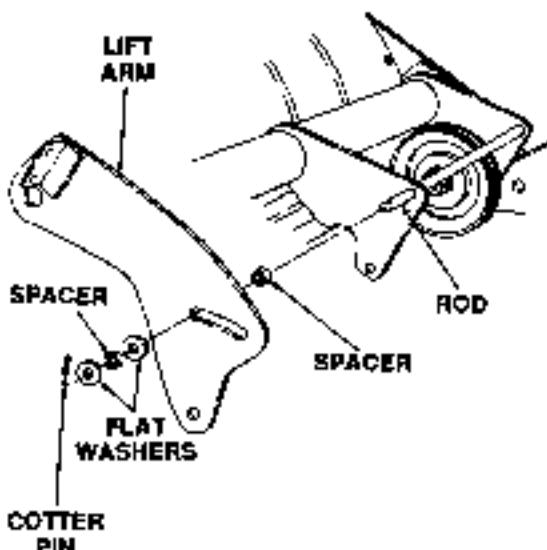
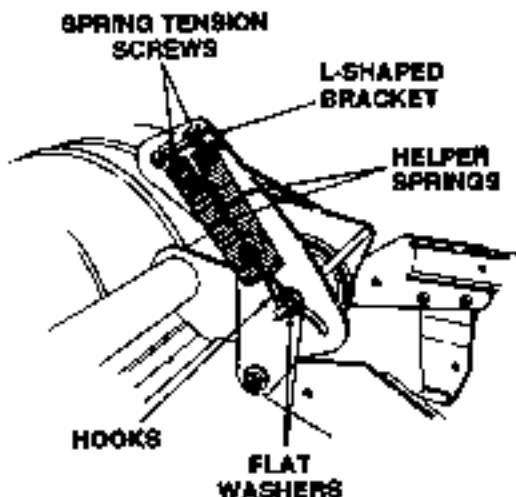

Figure 7-51. Install Lift Arm and Spacers.
Figure 7-53. Attaching Helper Springs.
2. In this order: slide a spacer (32, Fig. 7-45), the lift arm (7), a flat washer (33), the second spacer (32) and flat washer (33) onto the rod of the tiller pivot bracket. Refer to Figure 7-51. Install a cotter pin (35) in the hole at the end of the rod.
4. Referring to Figure 7-53, attach and hold the hook of each helper spring (11, Fig. 7-45) onto the tiller pivot bracket rod, one hook between each end of the spacer (see Fig. 7-51) and its adjacent flat washer. Insert the two hex cap screws (16) through the holes in the L-bracket of the lift arm, and thread into the helper springs. Tighten each bolt one or two turns only, ensuring that there is no tension on the springs.
- f. Referring to Figure 7-53, tighten the two spring tension hex cap screws (16) until the upper end of the helper springs (11) are against the L-bracket of the lift arm (7).